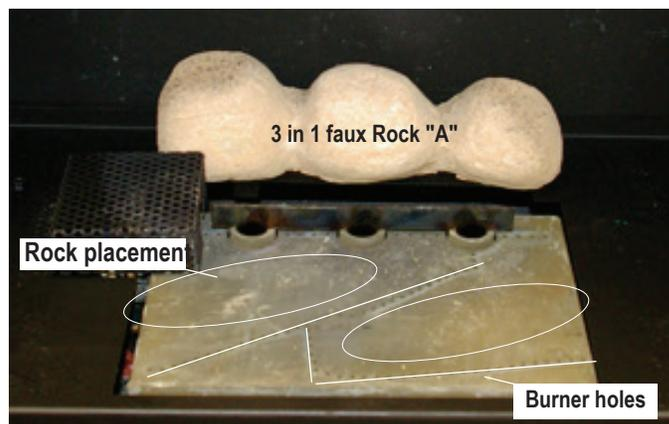

Figure 32b. Placement of faux ceramic rock "A" (flat surfaces of rock against the back and bottom pan of the fireplace). Note decreasing size of rock diameters.
Step 2. Install Rear faux "A" ceramic 3 in 1 Rock as shown in Figure 32b.
Step 3. Next, Install Centre (2) Two faux "B" and "C" ceramic 2 in 1 Rock as shown in Figure 32c. Note: Ensure the rocks do not cover the Burner holes, (reference lines of burner holes (straight lines) and outline or rocks (ovals) shown above, Figure 32b.)
Step 4. Install Front (3) three of the supplied (5) five faux ceramic "D" Rocks as shown in Figure 32b. Note cut surfaces of Rocks.